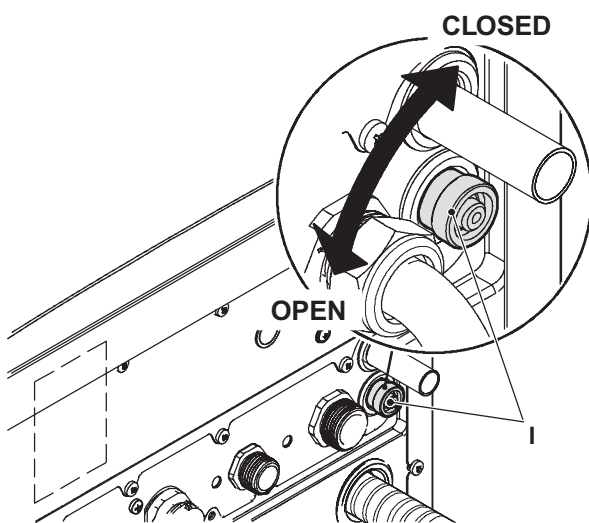
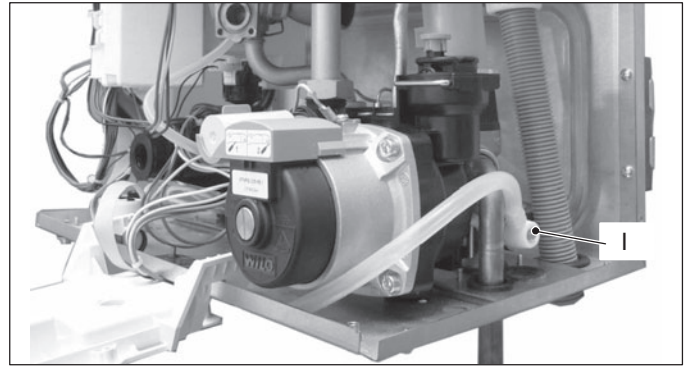

Figure 2.11
Figure 2.12
- 3 Open the drain tap I (Figure 2.11 combi or Figure 2.12 only c.h.) until the boiler is completely emptied.